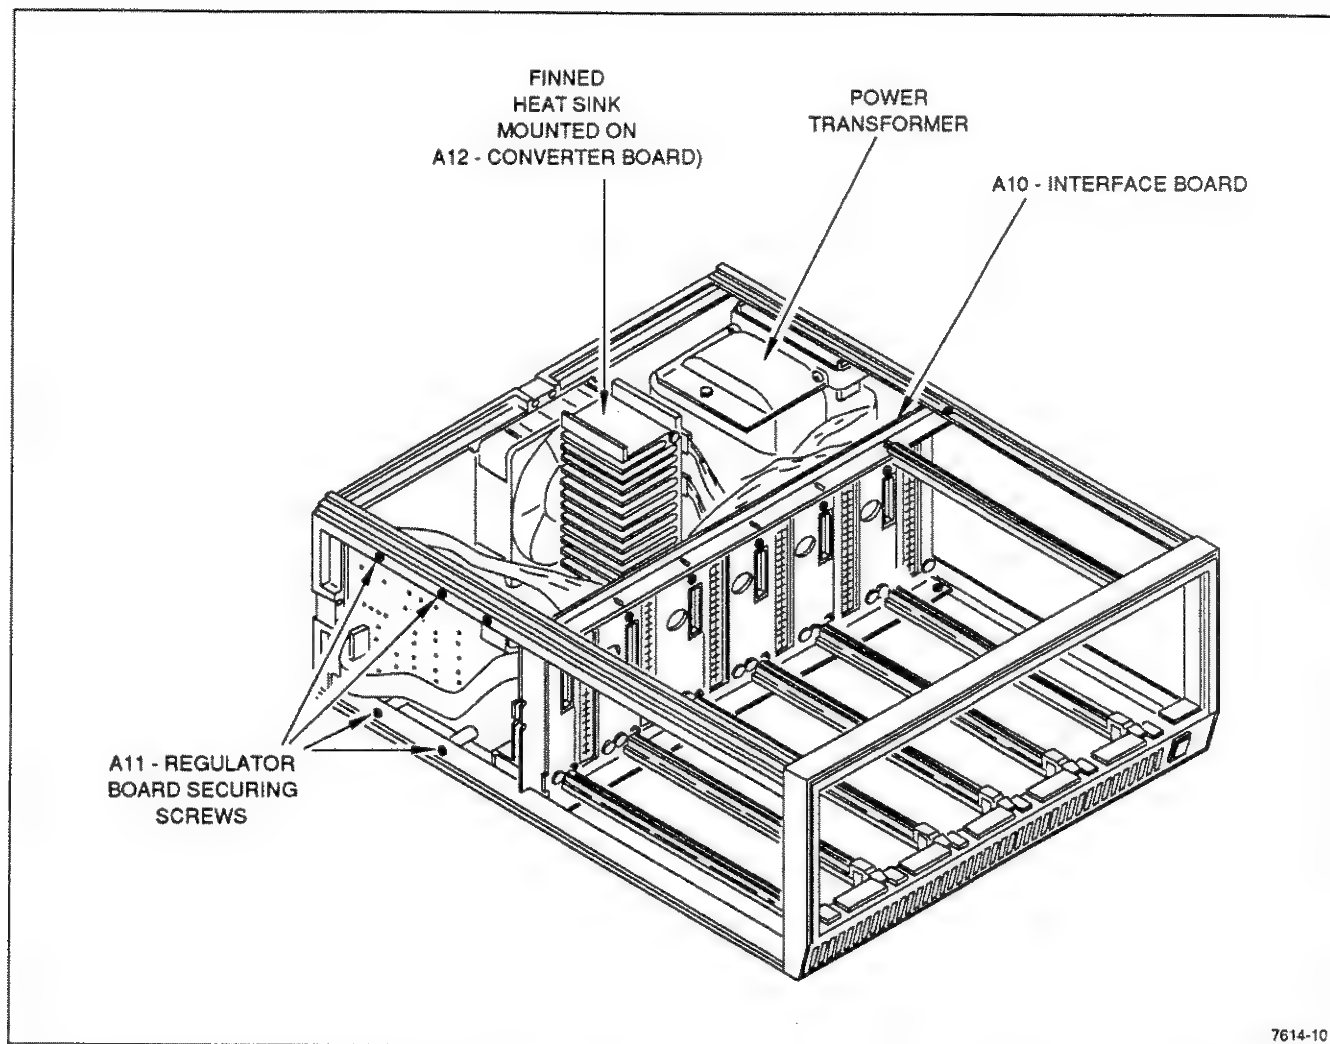

Fig. 5-4. Power supply circuit boards.
c. Remove the 4 securing screws shown in Figure 5-4 and lift the Regulator board out through the top of the instrument.